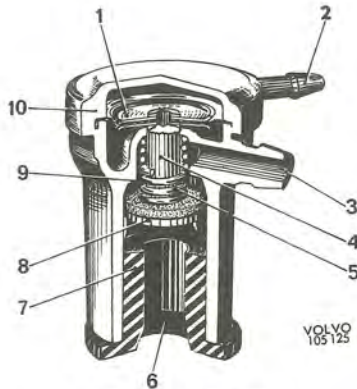

Fig. 2-70. Air valve
The air valve (Fig. 2-70) controls the connection between the venting filter and the carburettor venturi. The space above the diaphragm (1) is connected by a line to the carburettor venturi on the side of the